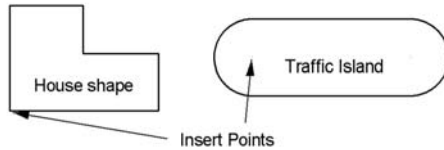

Figure 12-51. Defining Structure Illustration
5. Click on a point within the window to act as the insertion and rotation point when the structure is located in a project (Figure 12-51).